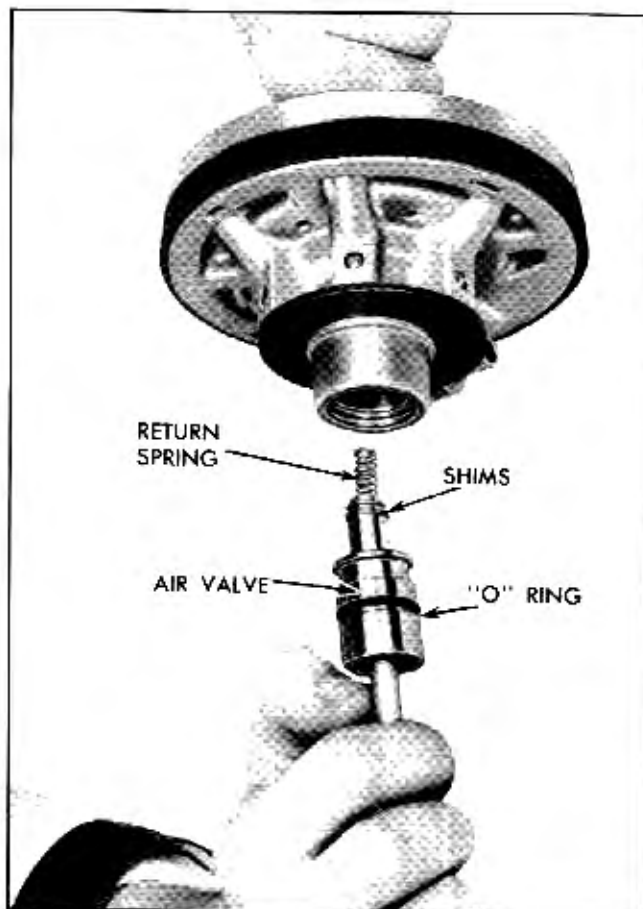

Fig. 5-54 Removing or Replacing Air Valve Assembly
3. Carefully pull out air valve and push rod while holding piston in vertical position. Valve spring and shims will come out with the air valve (Fig. 5-54). **CAUTION:** Lift out spring and make note of number of shims which fit over valve shank and rest on valve shoulder.
4. Remove "O" ring from air valve (Fig. 5-54).